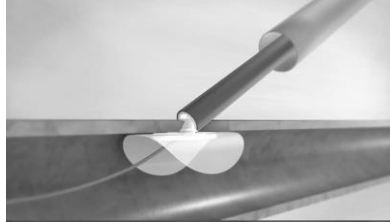

Figure 13. Tamponade position, implant positioned juxtaposition to arteriotomy.
- b. Continue to withdraw the device a further 1.5 graduations (= 3.5 graduations total). At this point, gentle tactile resistance should be felt as a result of the implant anchoring itself against the inside lumen of the artery wall. This is the tamponade position, and the implant is now controlling the bleeding from the arteriotomy. Figure 13.